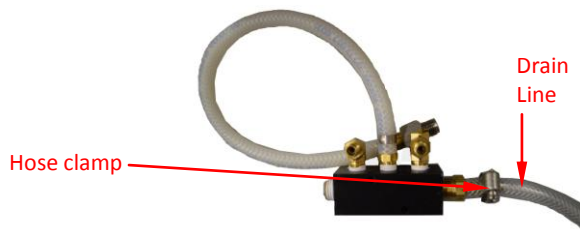

Figure 7
- b. Attach the drain line to the new X64.5 Drain Manifold Assembly by tightening the hose clamp using a flathead screw driver. See Figure 7.